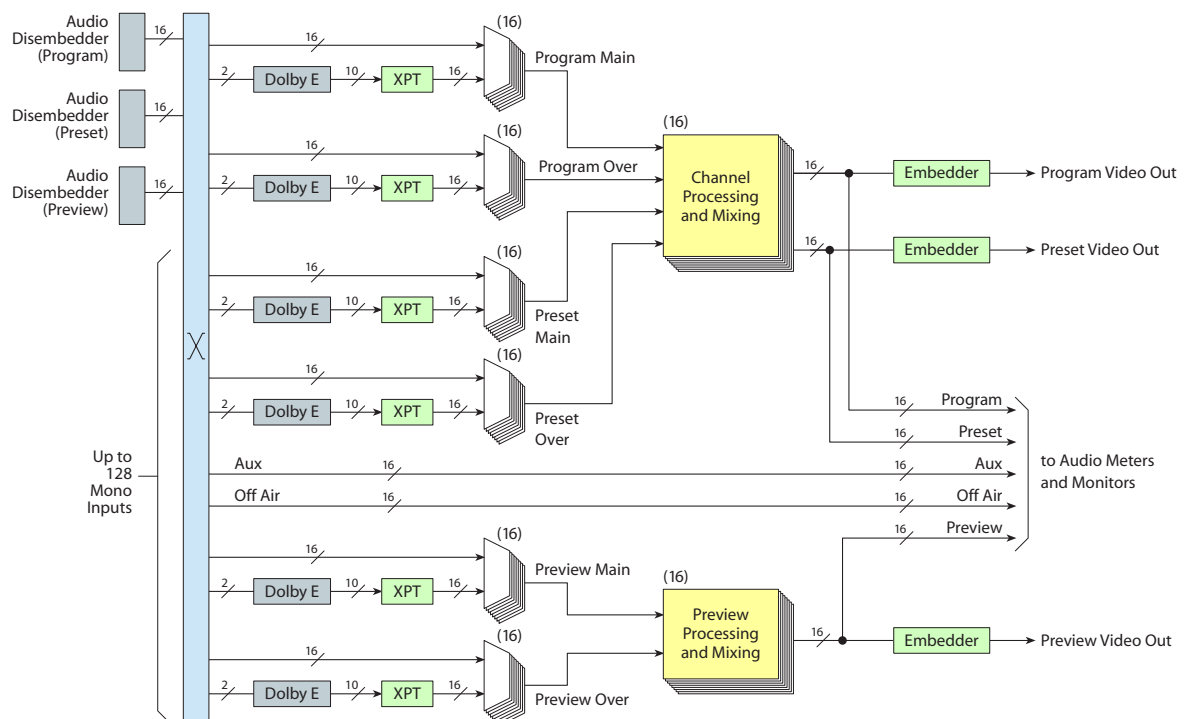

Figure 5-1. Audio Processing Section (without Dual Dolby)
- The default. (Refer to Figure 5-1.)
The audio crosspoint accepts discrete audio inputs directly and accepts embedded audio after it passes through a disembedder. Each disembedder produces 16 channels (8 AES pairs) as shown in Figure 5-1.
The MCE also accepts up to 16 discrete or embedded audio over inputs for program, preset, and preview. Figure 5-1 shows the schema for MCEs without dual Dolby decoders: